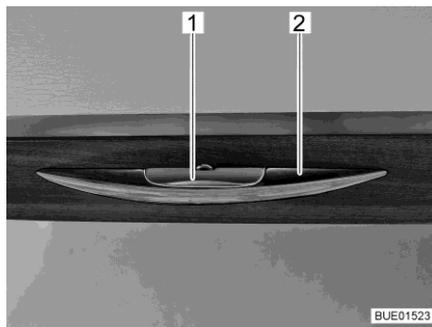

Fig. 48 Furniture flap with release handle
- Press the release handle (Fig. 48,1) and hold it down.
- Pull the handle (Fig. 48,2) until the furniture flap is open.